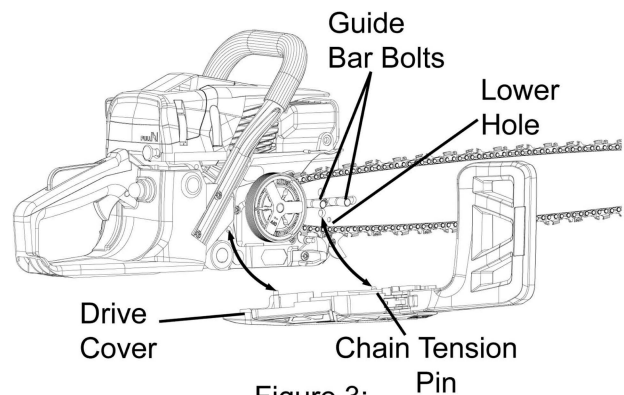

Figure 3: Pin
4. Place the slotted end of the Chain Guide Bar over the Guide Bar Bolts and place the Saw Chain over the Drive Sprocket. Refer to Figure 3.